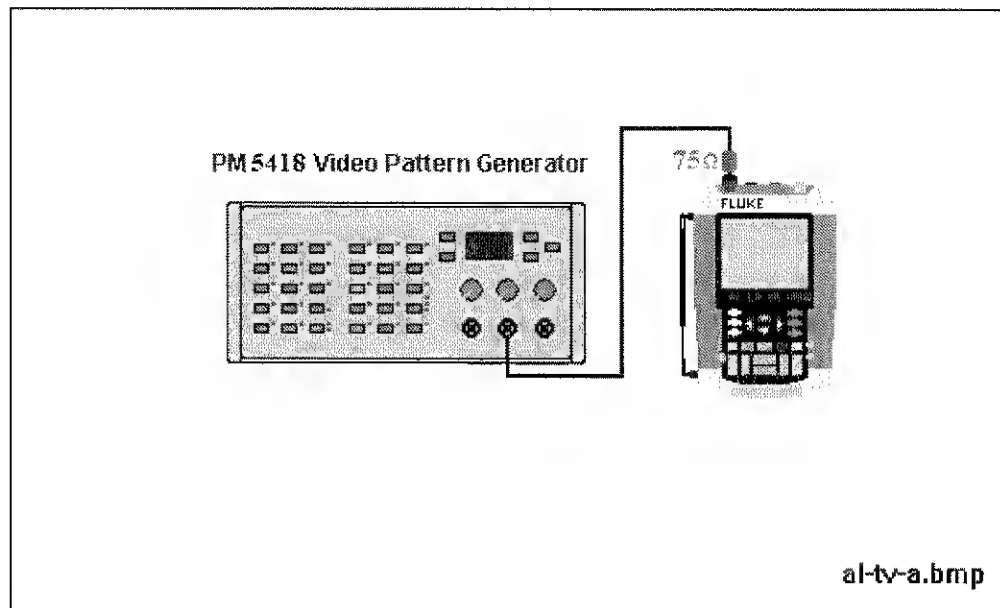

Figure 4-8. Test Tool Input A to TV Signal Generator
1. Connect the test tool to the TV Signal Generator as shown in Figure 4-8.